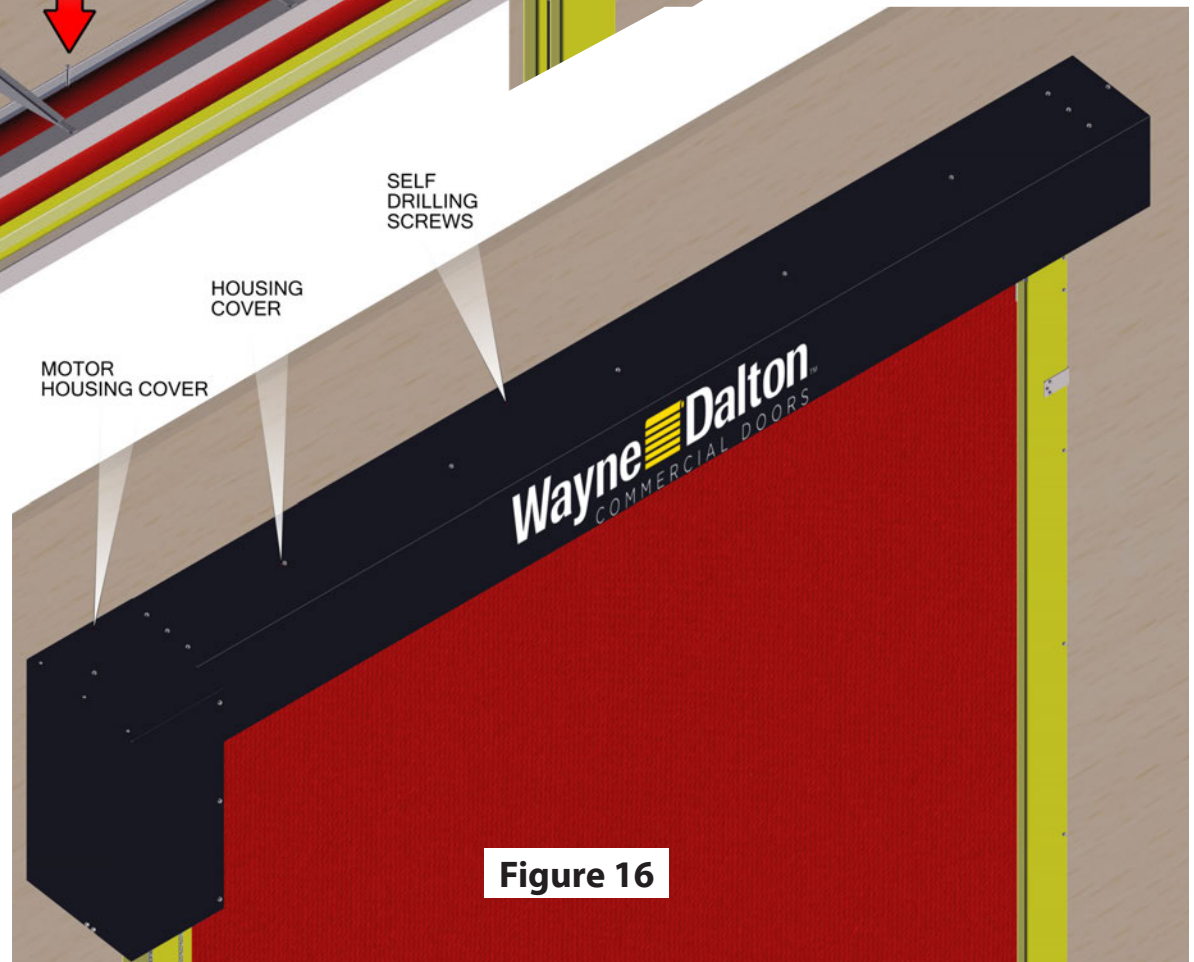

Figure 16
1. MAIN COMPONENT OVERVIEW, FIG 16 AND 17